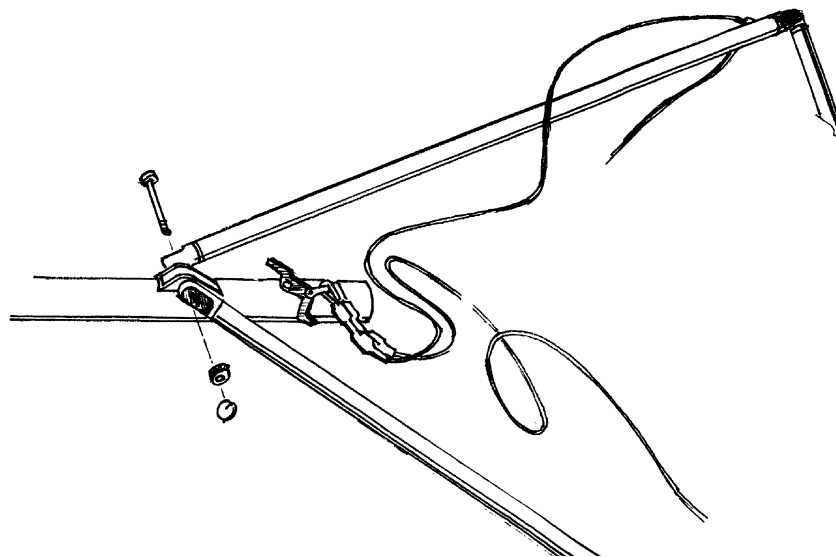

Fig.4
2.1.5. Lay the N1 keel tube with N1 leading edge tubes so that the channel which secures the control bar is above. Attach the uprights to the channel using the bolt which is put through the channel and through the tops of the downtubes and fix them with the nut and the safety ring (Fig.4).